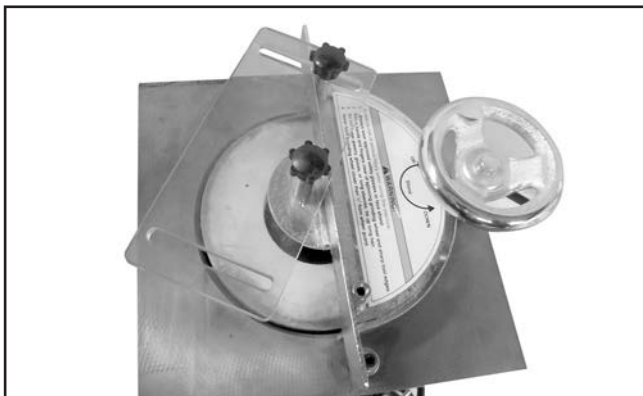

Figure 11. Adjustable guard skewed.
- If necessary, adjustable guard may also be skewed from wheel guard (see **Figure 11**).